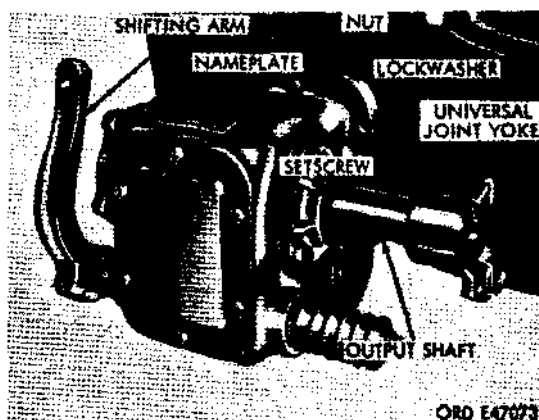

Figure 283. Transmission mounted power takeoff (all models except M51, M51A2).
b. Power Takeoff (Mounted on Transmission) (All Vehicles Equipped with Front Winch Except M51, M51A2). The power takeoff (fig. 283) mounted on the transmission for powering the front winch only is a three-speed (two-wind speed and one-unwind speed) unit. The output shaft on the front of the unit is connected to the input shaft on the rear of the winch by a propeller shaft. The power takeoff is controlled by a lever in the cab.